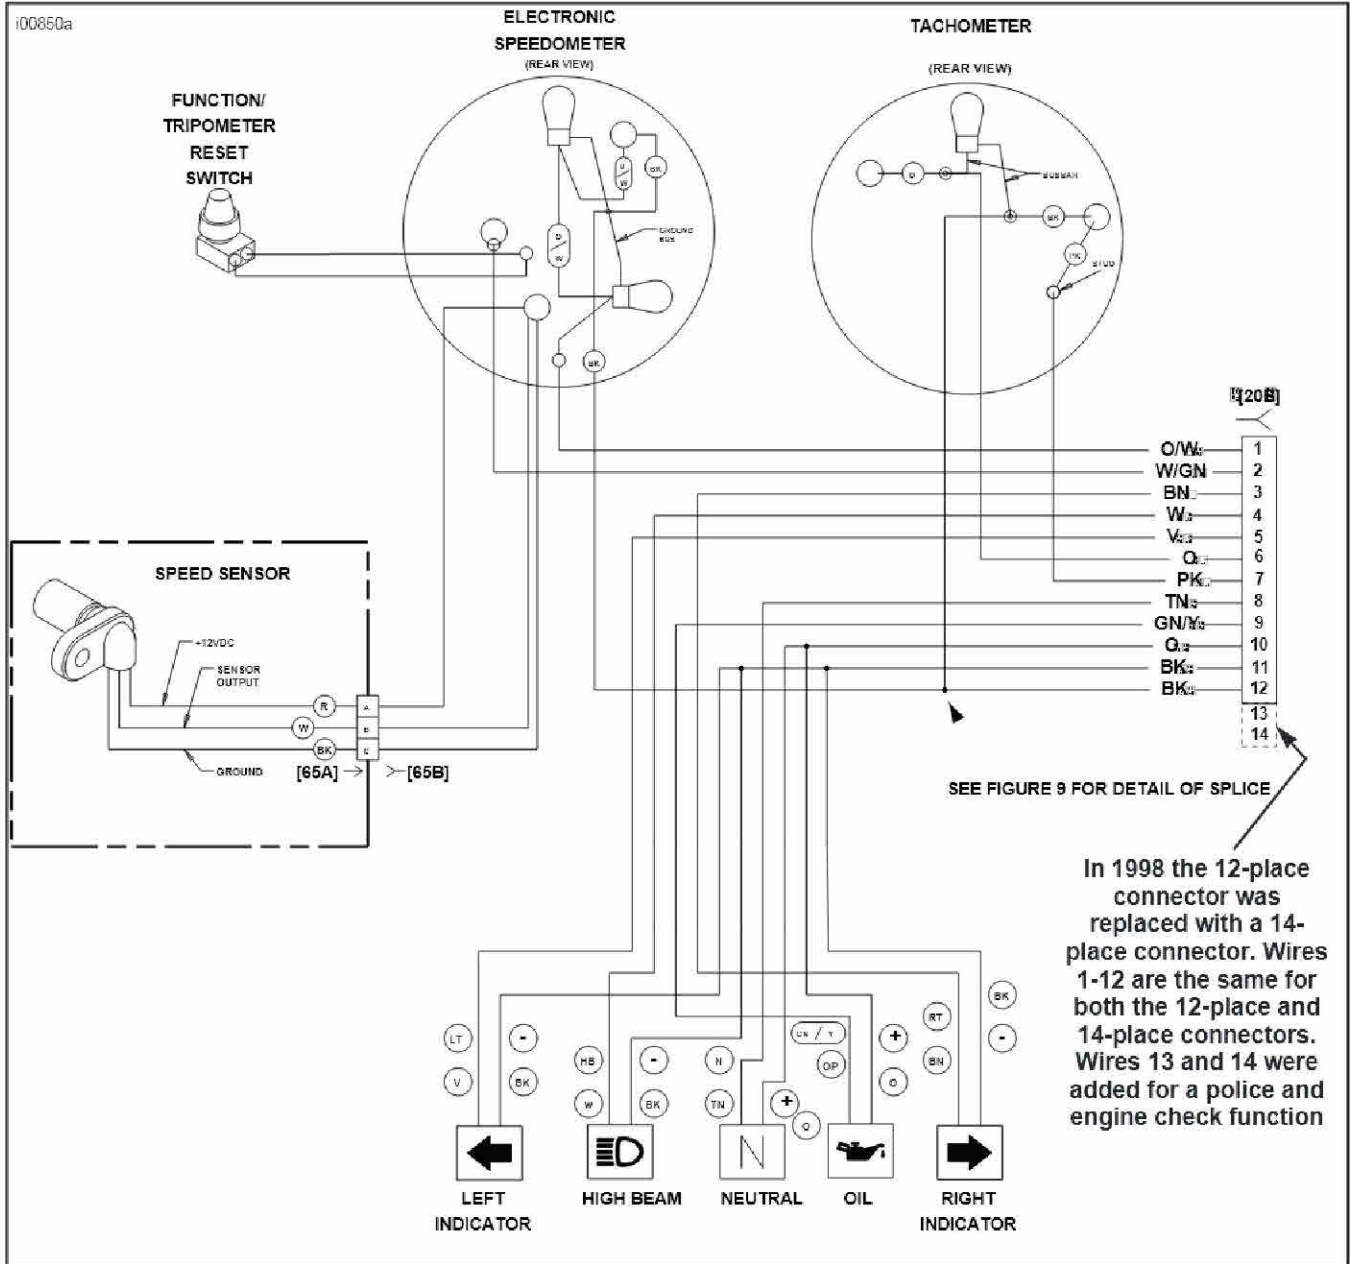

Figure 9. Wiring Schematic
The wiring schematic for this kit is shown in Figure 9.
5. If tachometer does not function, see Figure 9 and check that all wiring connections were correctly made.